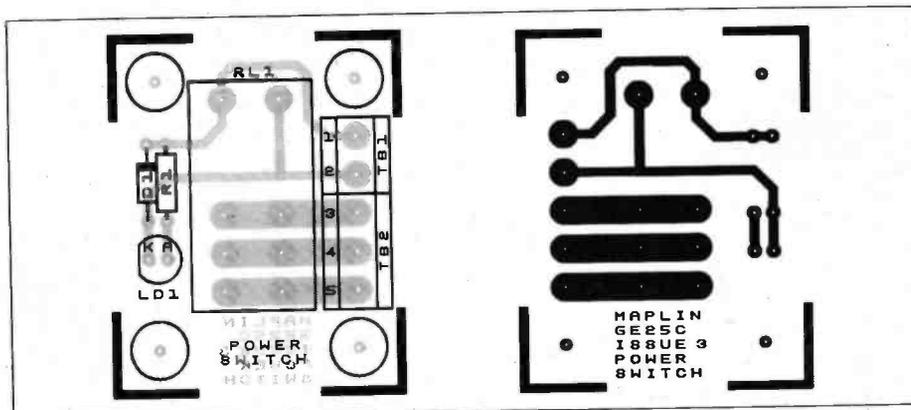

Figure 4. PCB layout.
Please refer to the construction guide supplied with the kit for soldering and constructional techniques. The PCB supplied is of high quality fibre glass board, with a legend to aid construction – part number GE25C. First mount the resistor (solder and crop the leads as you go), then the diode D1 (making sure the diode is fitted the correct way round) followed by the LED LD1 – the cathode (K) is the short lead or flat side on the package which faces away from the relay. If the leads on any component are tarnished, then clean with a fine grade wet and dry paper to make it easier to solder. Next fit the screw terminals and lastly, mount the relay. Having now fitted all the components, check for solder splashes and bridges and re-check D1 and LD1 against Figure 4. The PCB may now be cleaned of flux residue using suitable solvents (YJ45Y).